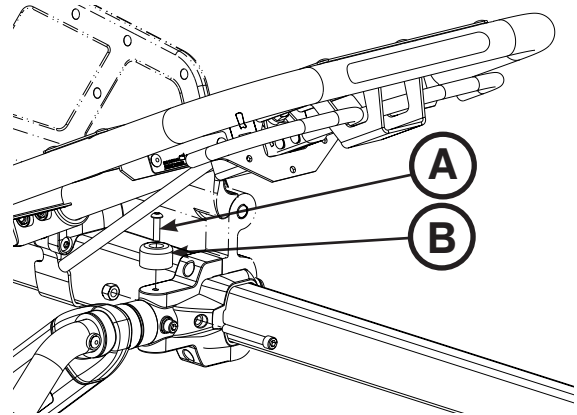

Figure 81
3. Using a T25 Torx driver, remove the button head cap screw (A) and black bumper (B) on the side where you are replacing the siderail (Figure 81). Save the screw and bumper for reinstallation.